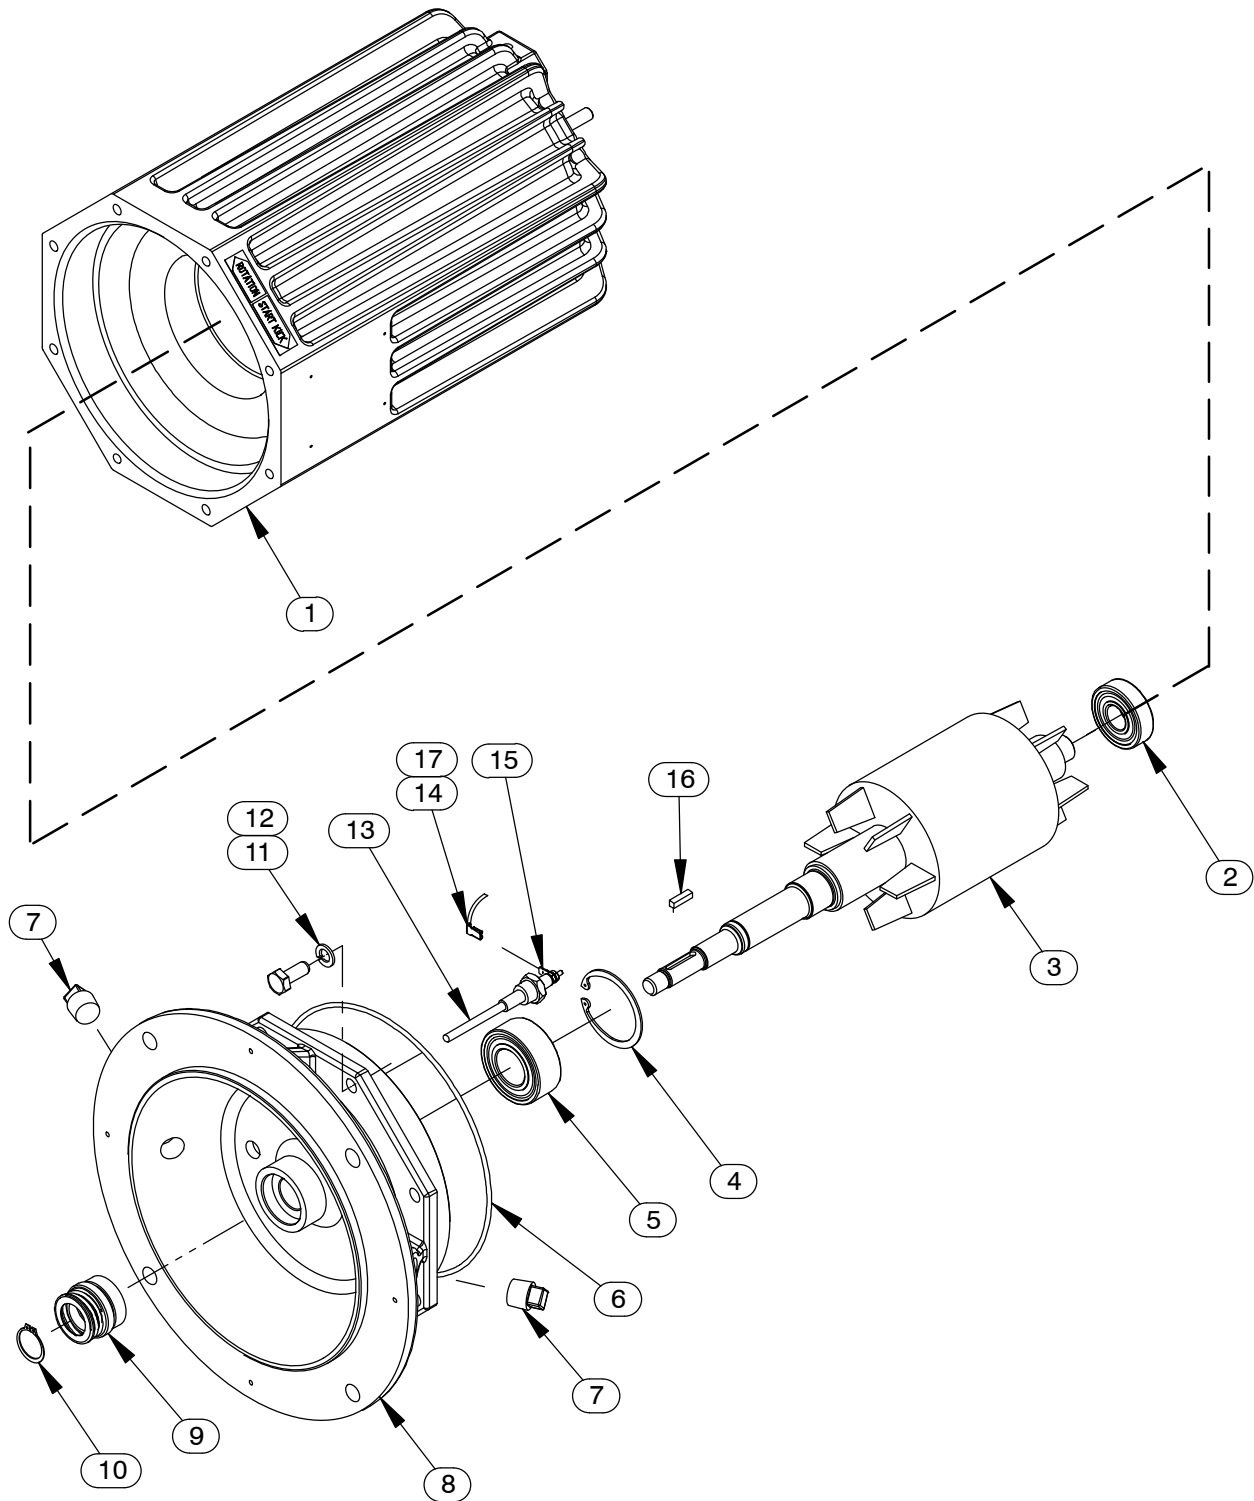

Figure E-2. Motor Assemblies
**Draining Oil From Seal Cavity****(Figure E-2)**
To remove the impeller, use two thin-bladed screwdrivers positioned 180° apart to pry on the back of the impeller and “walk” the impeller off the shaft. Use increasingly larger screwdrivers (or wedges) as necessary. After the impeller comes free of the shaft, retain the impeller key (16, Figure E-2).
*An alternate method of removing the stationary element is to remove the screws (17) securing the seal plate (15) to the motor assembly (7). Pry the assembled seal plate and stationary element off the shoulder of the intermediate (8, Figure E-2). Remove the O-ring (6) and press the stationary element and seat out of the seal plate from the back side.*
### Upper Seal Removal (Figures E-2 and E-3)
With the pump inverted, stuff a clean tissue into the stationary seal seat bore of the intermediate (8, Figure E-2) or wrap a small rag around the shaft to prevent foreign material from entering the motor cavity.